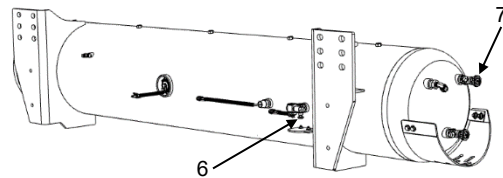

Figure 3:
8. Disconnect Fuel Supply Line from Fuel Supply Manual Shutoff Valve (6) and Fuel Return Line from Fuel Return Manual Shutoff Valve (7). *Figures 3 & 4*
1. Install Fuel Supply Line on Fuel Supply Manual Shutoff Valve (6) and Fuel Return Line on Fuel Return Manual Shutoff Valve (7). *Refer to Fuel Line Replacement. Figures 3 & 4*
2. Slowly open Fuel Supply and Return Manual Shutoff Valves (6) & (7) by turning knobs counterclockwise. *Figures 3 & 4*